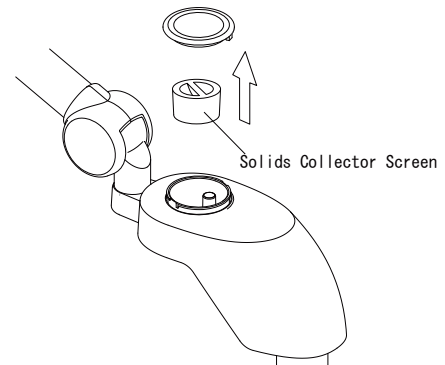

Fig.5-1 Solid Collector Filter
(2) Solids Collector (Fig.5-1)